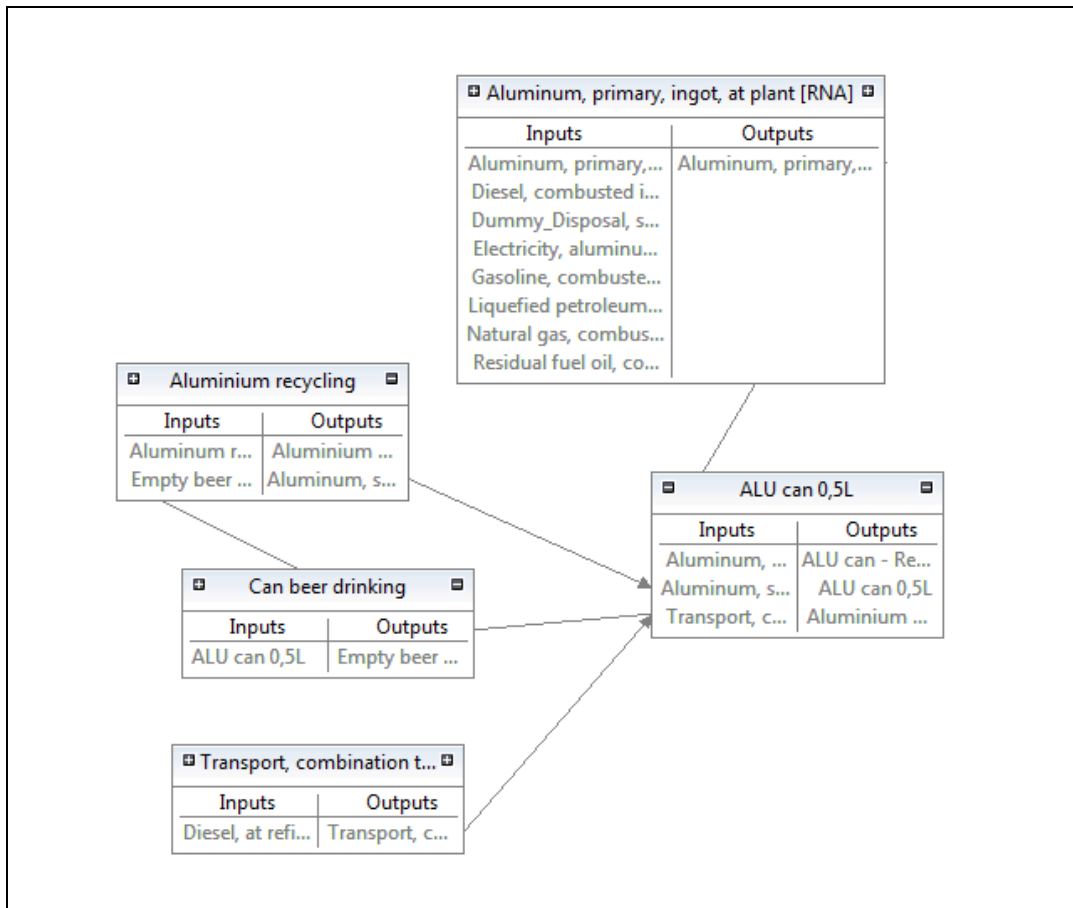

Figure 3, Product System “ALU can” model graph
- Go to the product system , open the “ALU can” and in the “Model graph”, you can see the similar model to Figure 3.